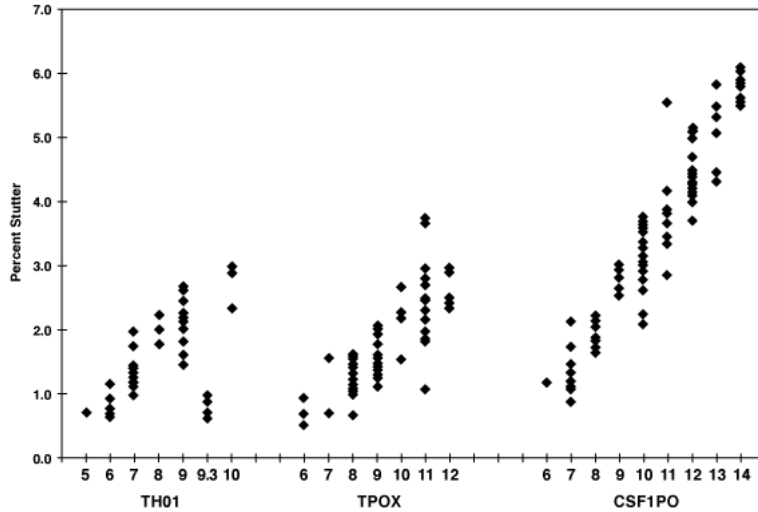

Figure 6-3 Percent stutter observed for the STR loci in the AmpF/STR Green™ I PCR Amplification Kit
- ◆ The percent stutter increases with increasing allele length (*i.e.*, with increasing number of consecutive repeat units) as shown in Figure 6-3 on page 6-22. This rule is likely to be violated if the core repeat units are not consecutive (*e.g.*, if some of the repeats are partial repeats or if the core repeat structure is interrupted by other repeat units).